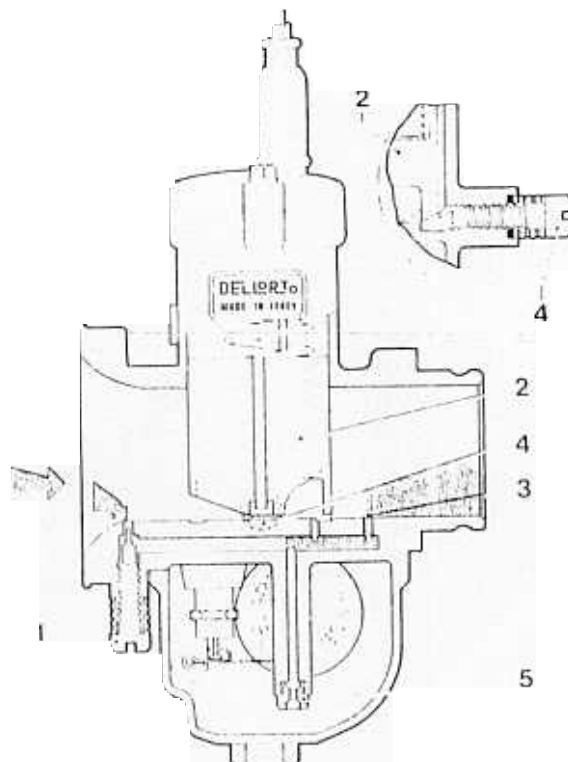

fig 19
In figure 19 the throttle slide (2) is shown in the idle position adjusted by the idle-speed screw (4). In this position, the vacuum existing downstream of the throttle valve causes mixture to be delivered the hole (3).